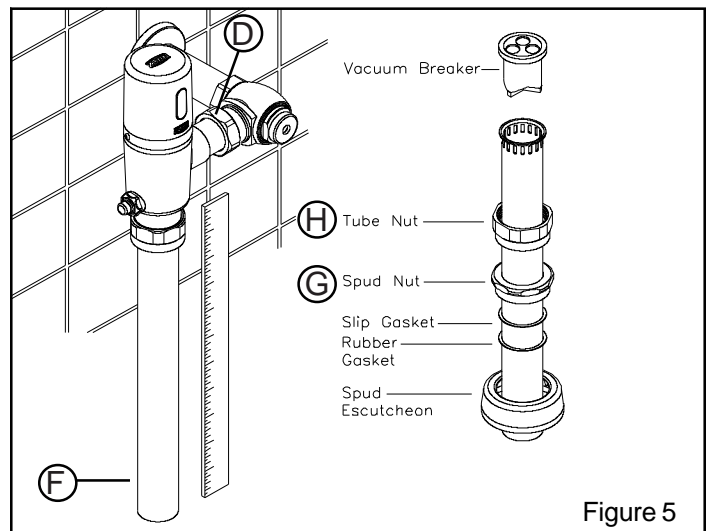

Figure 5
Determine the length of vacuum breaker tube (F) required to join the flush valve and fixture spud, and cut if necessary. See Figure 5.
Adjust and plumb the valve assembly. Tighten all connections with smooth jawed wrench and turn on water supply at the control stop. See Figure 5.